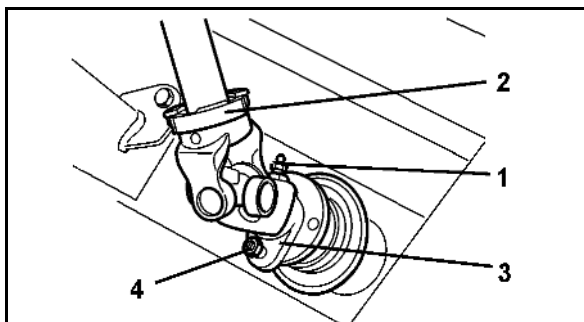

Fig. 57
6. Remove the grease nipple (Fig. 57/1) and attach the PTO shaft (Fig. 57/2).
7. Secure the connection fork (Fig. 57/3) into place using a shear pin (Fig. 57/4).
8. Screw in the grease nipple (Fig. 57/1).